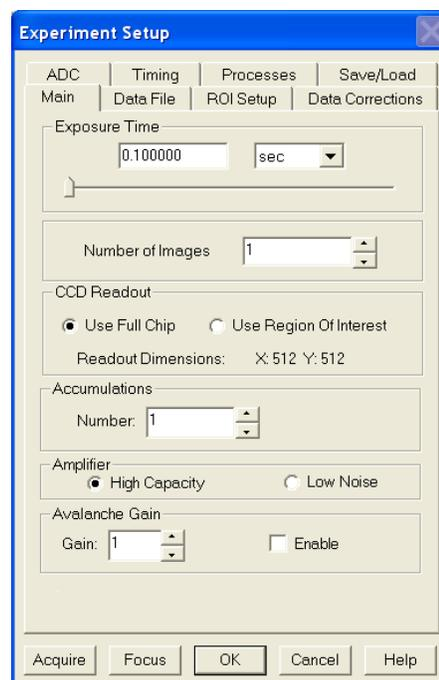

Figure 21. Experiment Setup: Main tab
1. Open the **Experiment Setup** dialog (Figure 21) from the **Acquisition** menu or by clicking on the  button on the **Custom Toolbar**.